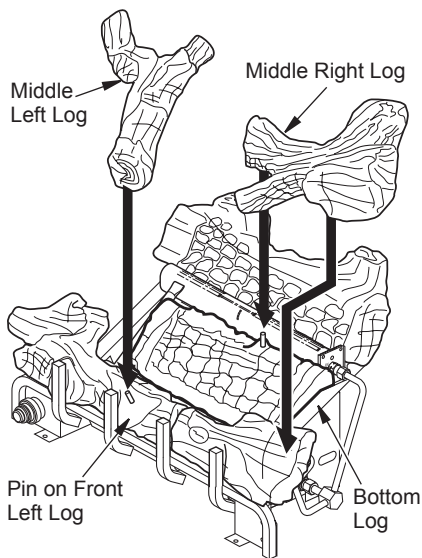

Figure 27 - Installing Log Sets
5. Place middle right log over front right and bottom logs as shown in Figure 27, page 20. Be sure hole in middle right log seats over pin in bottom log.
6. Place middle left log over front left and bottom logs as shown in Figure 27, page 20. Be sure hole in middle left log seats over pin in front left log.